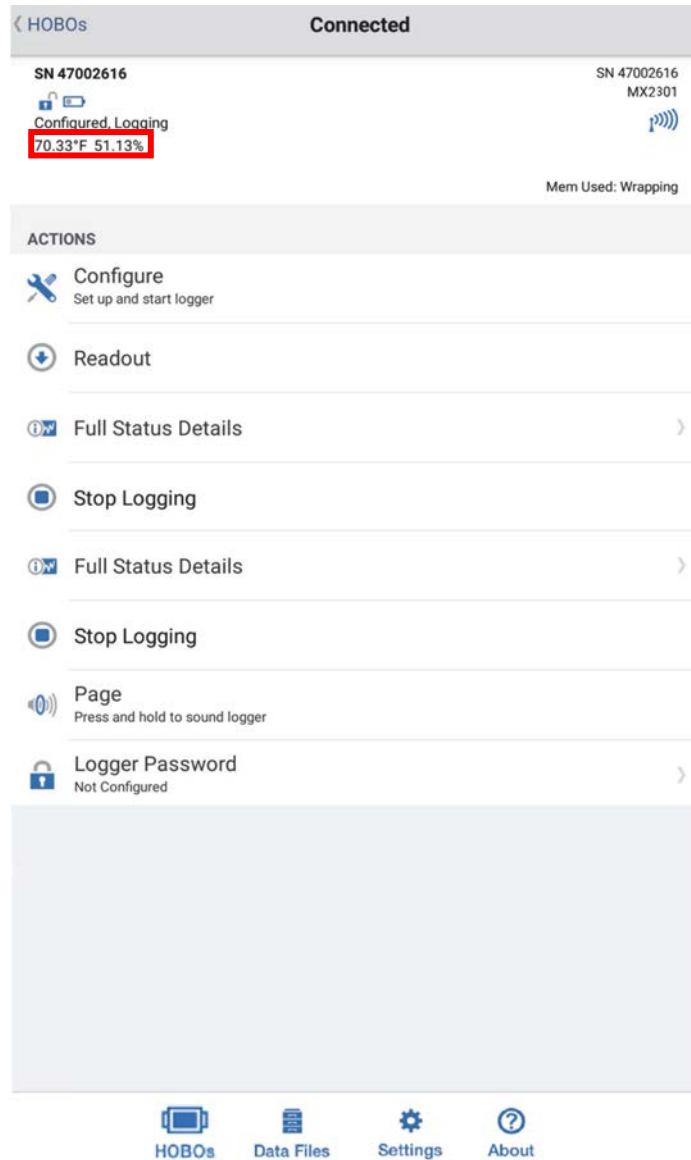

Figure A.7.14: The HOBOMobile “Connected” Screen. The temperature and relative humidity percentage at the current date and time is displayed in the red box.
- On the "Connected" screen, right under the words "Configured, Logging", you will see the temperature and relative humidity percentage readouts of the logger at the current date and time as shown on Figure A.7.14. Make sure that these readouts are consistent with your expectations. If not, check the placement of the MX2301 Data Logger.